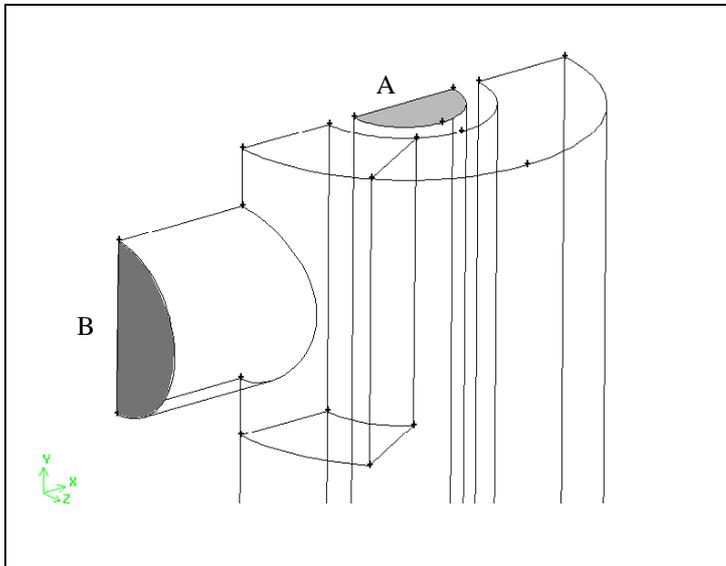

Figure 7-44: Faces to set as inlet, outlet, and wall boundaries
- iv. *Shift*-left-click the face marked **A** in Figure 7-44 and accept the selection.
iii. Select the face marked B in Figure 7-44 and accept the selection.